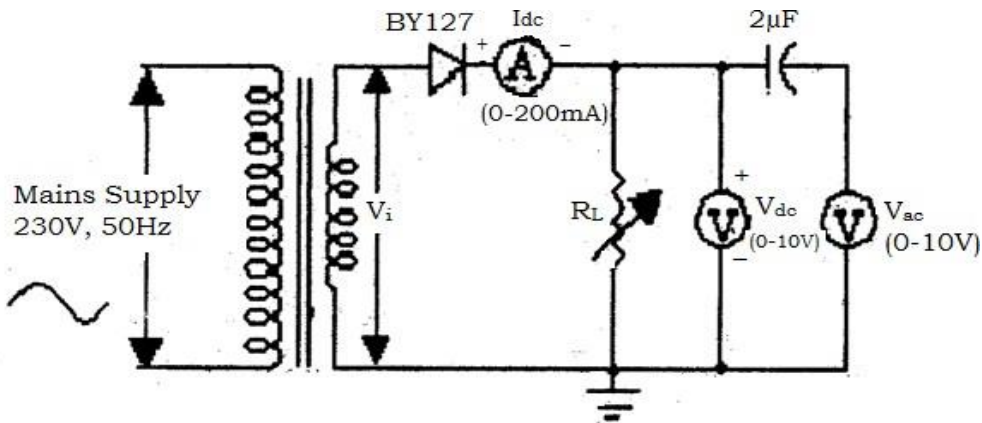

Figure 1 Circuit diagram of Half-Wave Rectifier without filter
- 1) Make the connections as per the circuit diagram fig.1.